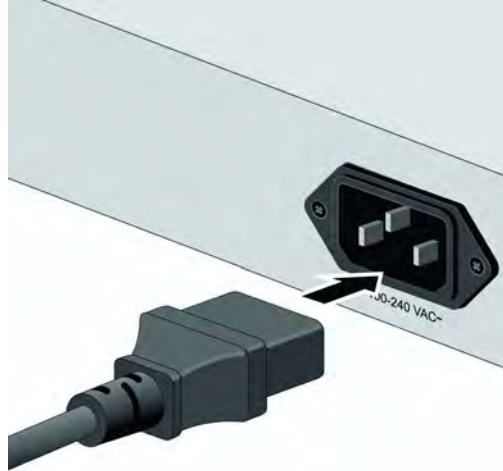

Figure 38. Plugging in the AC Power Cord
1. Plug the power cord into the AC power connector on the back of the switch, as shown in Figure 38.